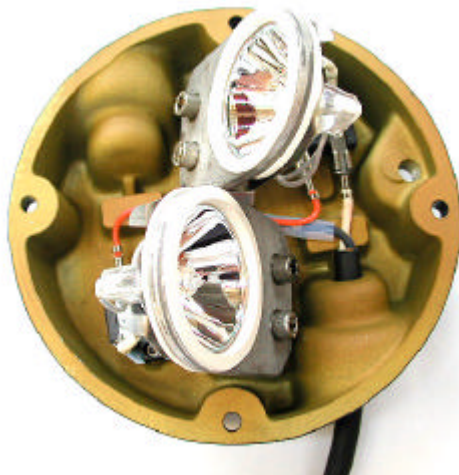

Fig. 4. ZA180 i Series fitting, Bottom Cover Assembly.
- Carefully lift off the bottom cover assembly and place 'bottom down' on the work surface. (See **Fig. 4**).